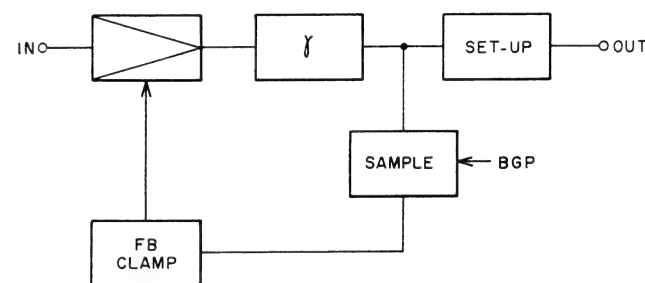

Fig. 25
Fig. 25 is the block diagram of the process circuit. The signal supplied to pin ③ is first passed, through the base graded amp (TR1) and then subjected to gamma correction with voltages made available by R46, R47 and R48 being applied to the bases of TR2, TR3 and TR4, respectively. (See Fig. 25) Subsequently, the signal taken out via EF (TR5) has its black mask portion sampled and held by TR6 (or the blanking portion sampled and held by CP-1 in the case of the red or blue channel), and the output is applied to IC12 (feedback clamp circuit) to keep constant the DC level of signals delivered from the base graded amp (TR1). The feature of this circuit is that the γ point can be shifted by changing the DC level.